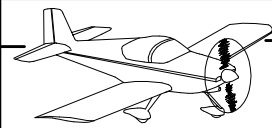

**FIGURE 7: SHAPING THE COWL PIN ENDS**
Step 7: Grind the ends of the cowl pins created in Step 3 through Step 6. For Steps 3 and 4 offset the point to the inside of the hinge pins curve as installed. See Figure 7.